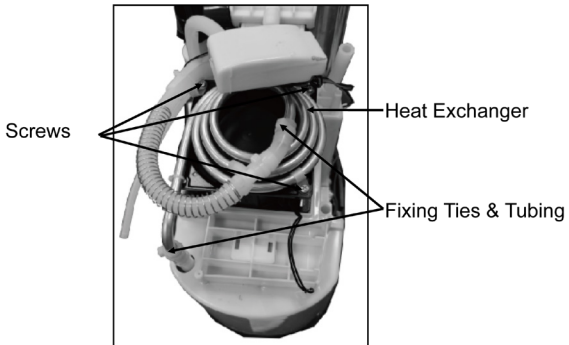

Figure 19
- ▶ Unscrew the screws. (Figure 19)
- ▶ Cut off the fixing ties and pull out the tubing. (Figure 19)